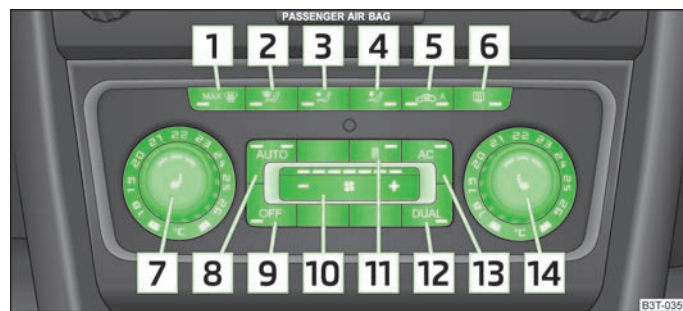

Fig. 109 Climatronic: Control elements
- > Press the button (AUTO) » Fig. 109.
- If the windshield mists up, press the button  **1** » Fig. 109. Press the button **AUTO** when the windshield is demisted.
- Press the button  » Fig. 109.